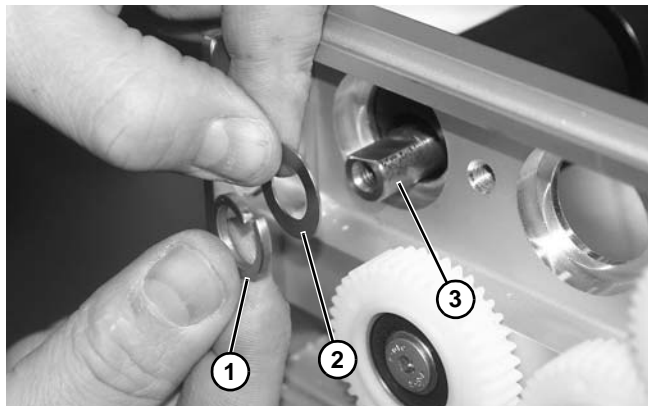

Figure 66
10. Remove lockwasher (**Figure 66, item 1**) and washer (**Figure 66, item 2**) from end of roller shaft (**Figure 66, item 3**).